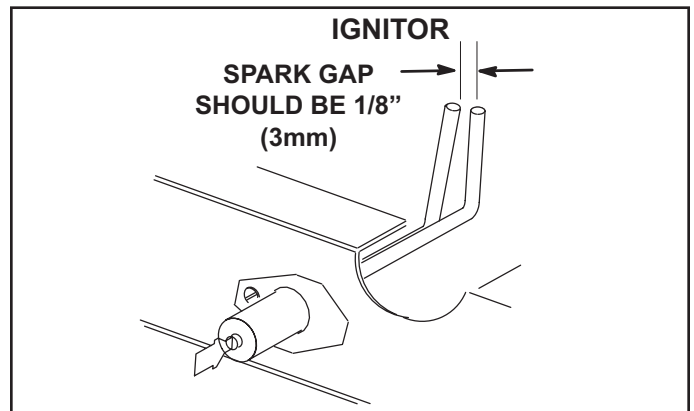

FIGURE 35
- 4 - Locate the ignitor under the left burners. Check ignitor spark gap with appropriately sized twist drills or feeler gauges. See FIGURE 35.